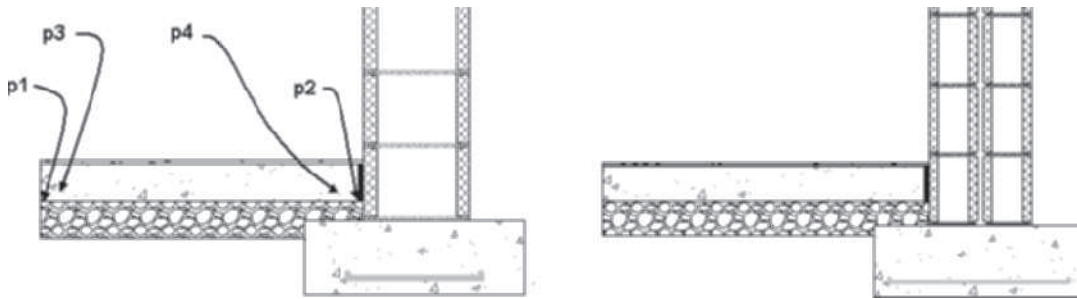

FIGURE 12.93 Placing the concrete slab
Start point or: (Select a point at p1 as shown in Figure 12.93.)
Endpoint or: (Select a point at p2 as shown in Figure 12.93.)
- Start point: (Select a point at p3 as shown in Figure 12.93.)
- Endpoint: (Select a point at p4 as shown in Figure 12.93.